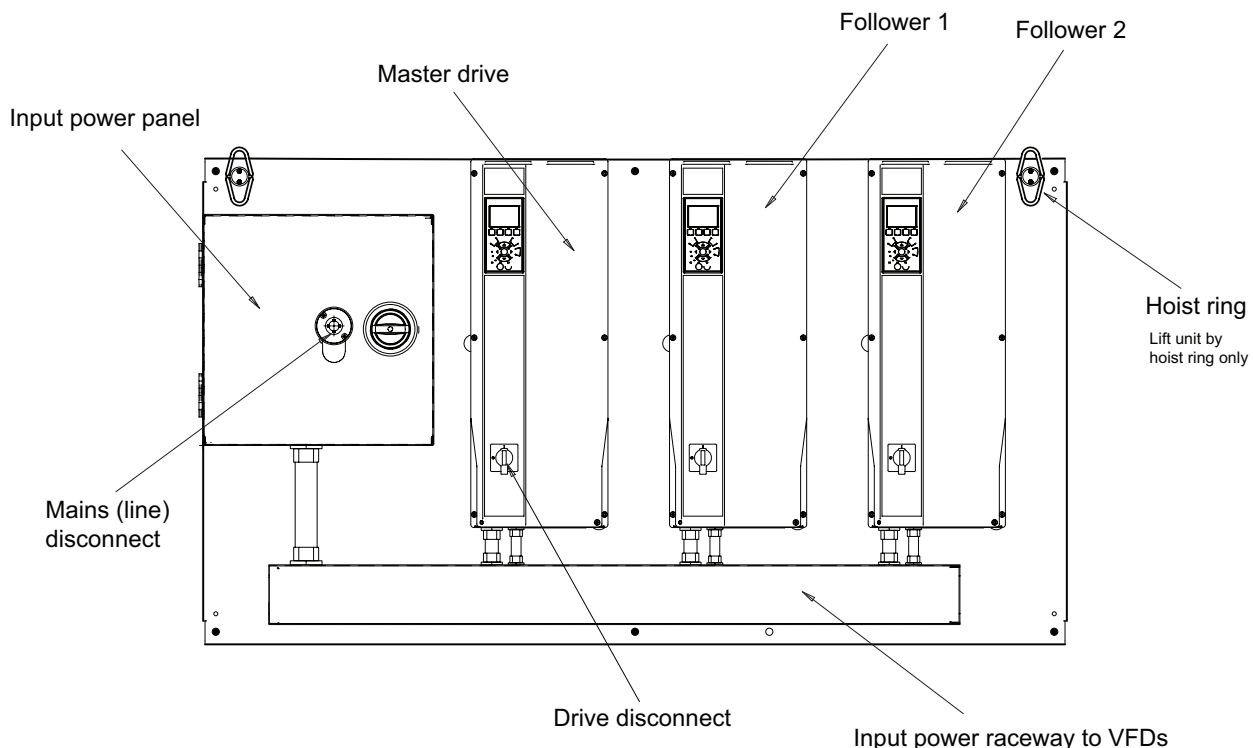

Figure 3-3. Typical Unit Components
- Connect 3-phase AC input power wire to terminals L1, L2, and L3 on the main disconnect located in the input power panel (see Figure 3-3).